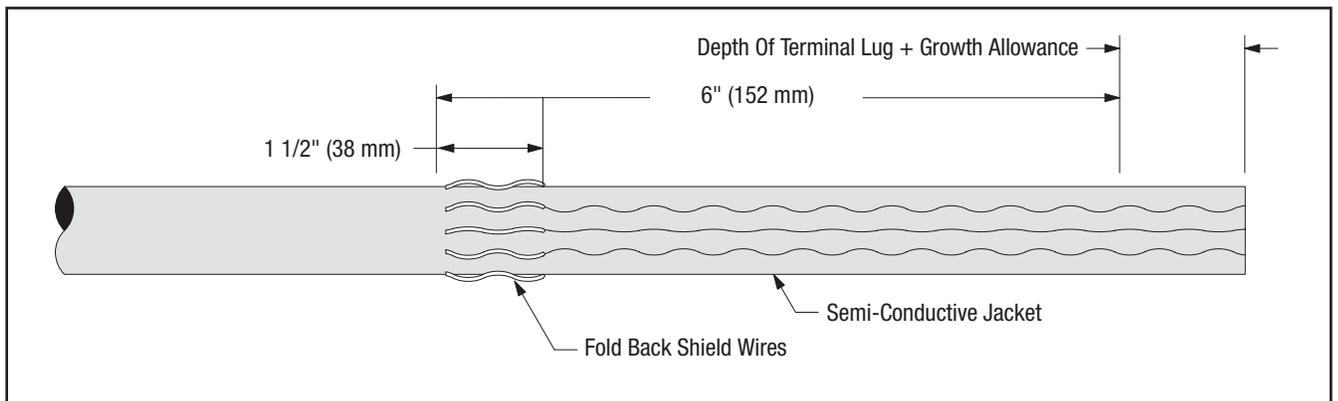

Figure 16
12.4 Remove constant force spring. Bend shield wires back upon cable jacket 1 1/2" (38 mm). Cut excess shield wire and discard (Figure 16).